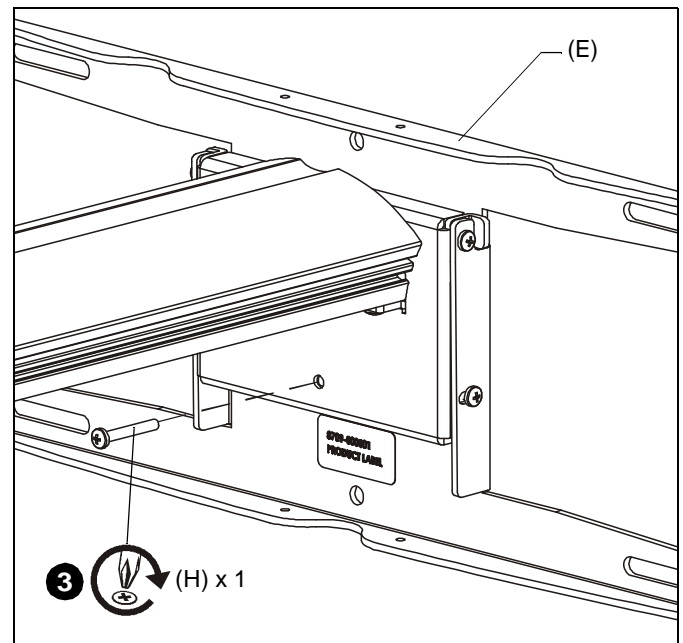

Figure 10
3. Insert and slightly tighten one M5 x 35mm Phillips head cap screw (H) into wall plate (E). (See Figure 10)